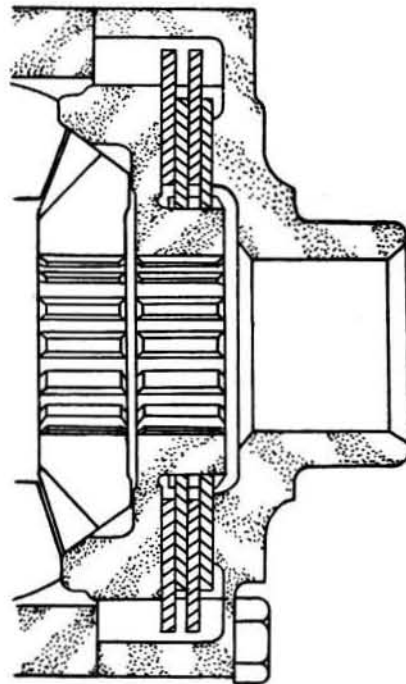

Fig.8.21. Sectioned view showing friction discs and plates
- 1 Refit the clutch plates and discs alternatively into the flange half of the casing (Fig.8.21).